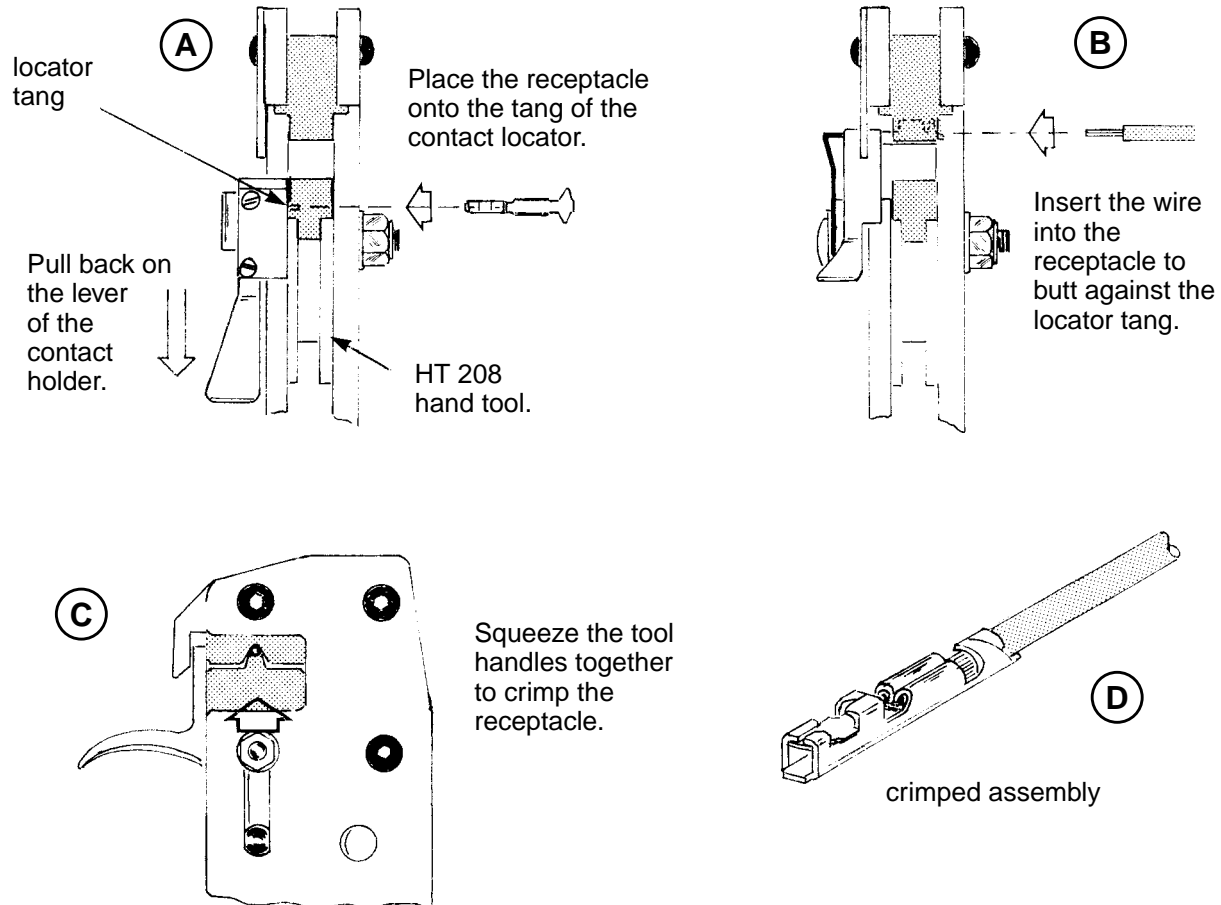

Figure 3 - Crimping PV Receptacles to 22 - 26 AWG Wire
5.2.1 Crimp PV receptacles to 22 - 26 AWG wire using the BERG HT 208 hand tool as follows (see Figure 3):